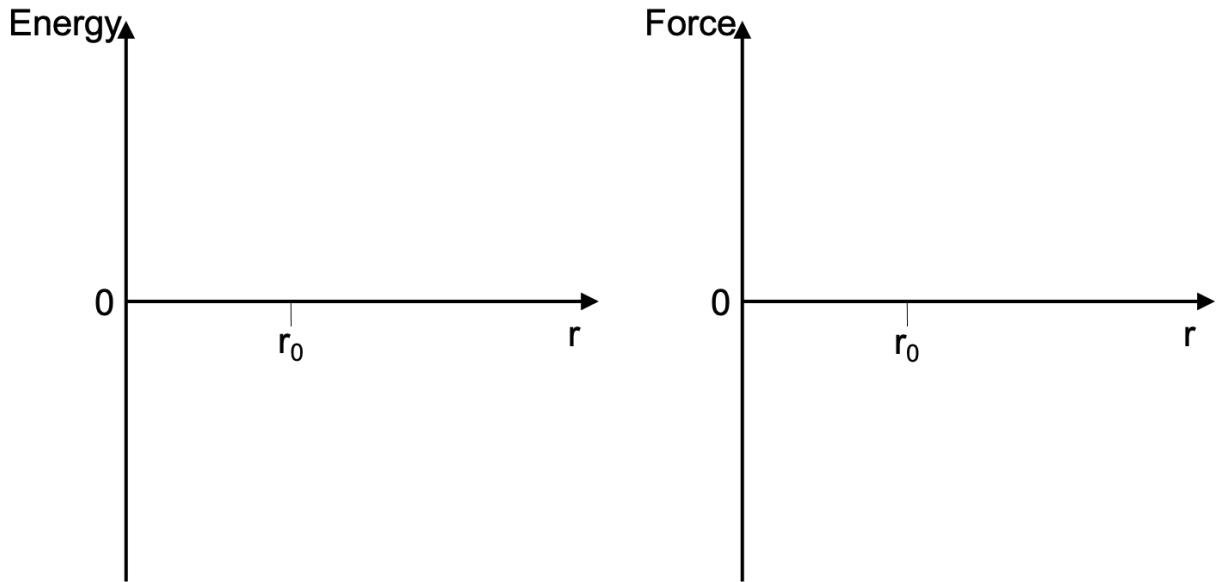

Figure 16: Plots on which to make the sketches for part (a).
- a. Draw a schematic plot of energy and force versus bond length (r) for the bonds in any general material (not just those considered on the previous page) on Figure 16 below, and describe in words, in the box below it, what features of each curve determines the value of the elastic modulus.